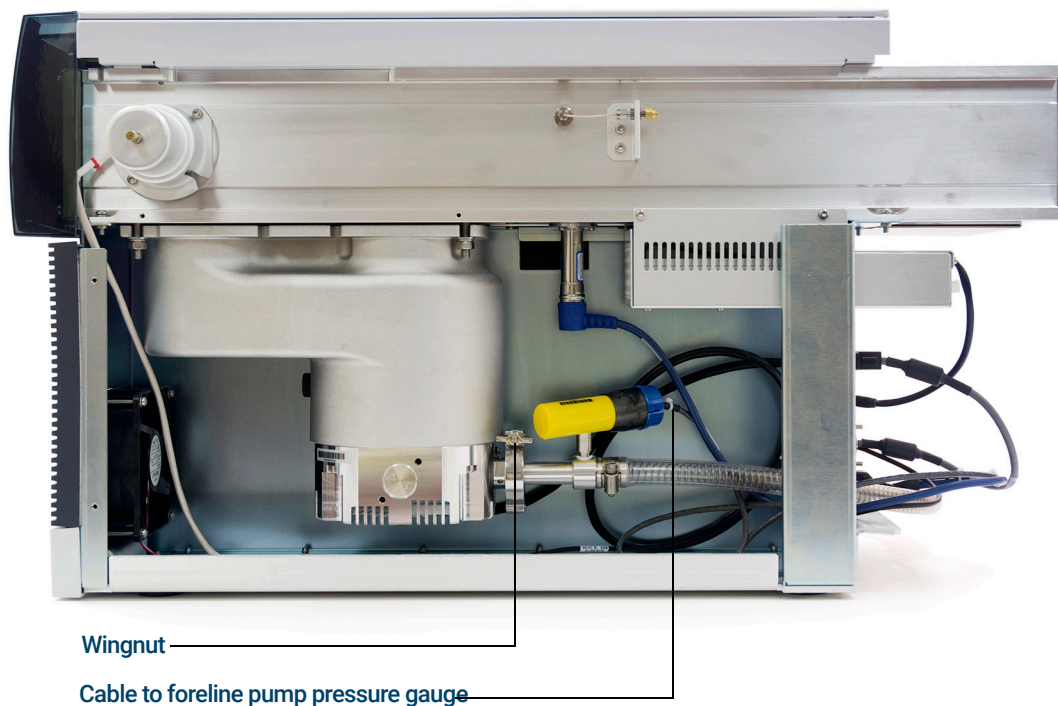

Figure 11. Ion vacuum gauge cable
- 4 Unscrew the large wingnut on the gauge clamp. (See **Figure 11** on page 97.)